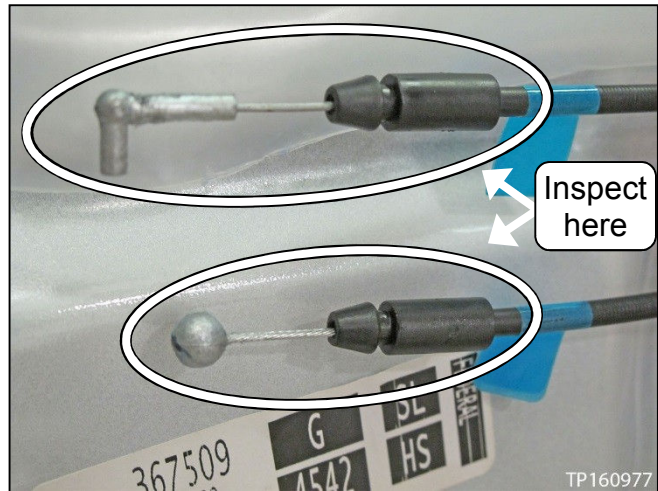

Figure 17
4. Inspect the cables (see Figure 17 and 18).